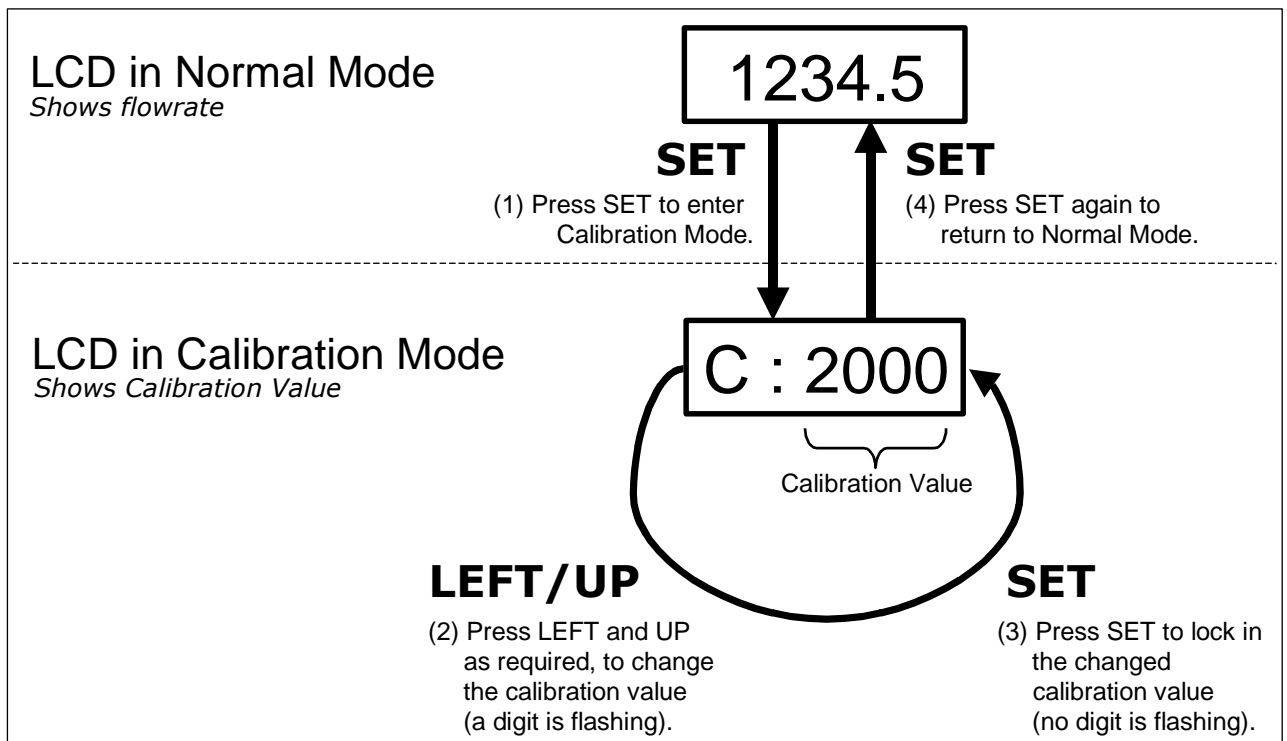

Figure 7. Adjusting the Calibration Value using the Calibration Buttons.
- using the Calibration Buttons to change the Calibration Value (as described on the next page by Table 2 and Figure 7).